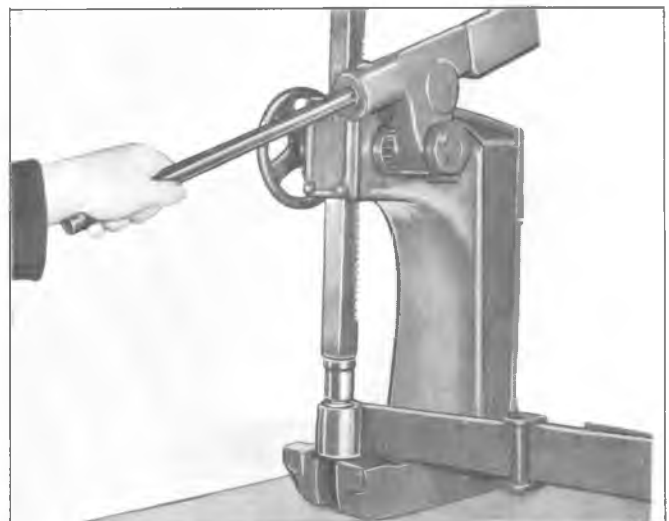

Fig. 14—Pressing Out Bushing
1. Place spring on press and press out bushing using a suitable rod, pipe or tool (fig. 14).